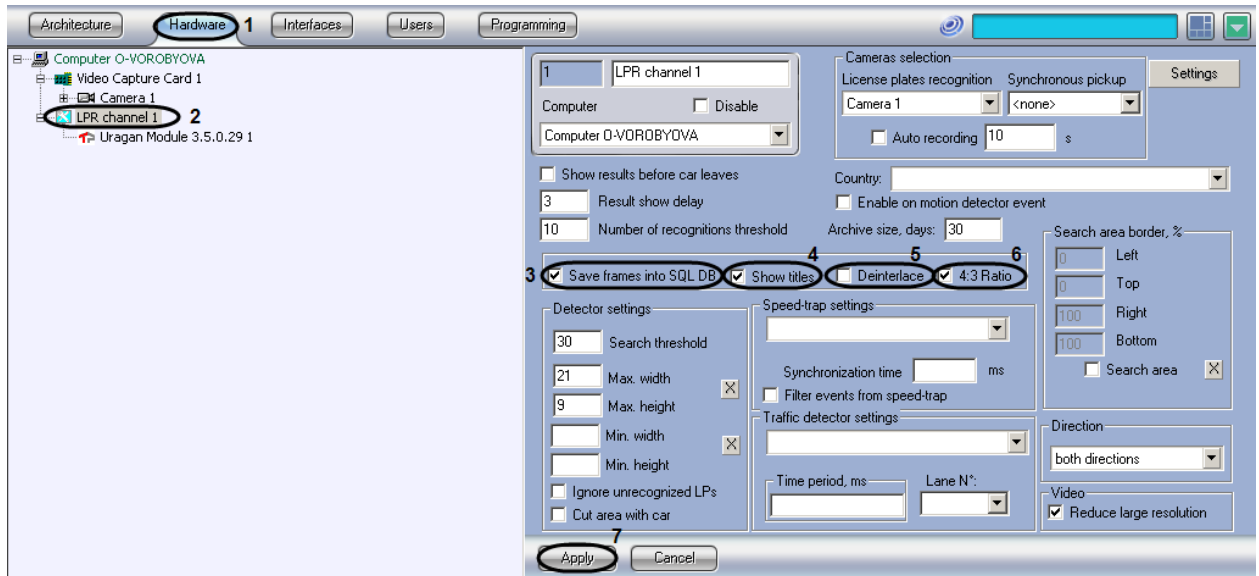

Fig. 7.2—9 Enabling the saving of LP number to SQL DB
1. In the System Settings dialog window, open the Hardware tab (Fig. 7.2—9, 1).
2. Select the LPR channel, corresponding to the activated Auto-Uragan 3.5.0.29, CARMEN-parking, CARMEN-Auto, ACCR or VIT module, in the objects tree on the Hardware tab (see. «Program module activation, used for Plates identification», Fig. 7.2—9, 2). The settings panel of the selected object will open on the right side of the window.